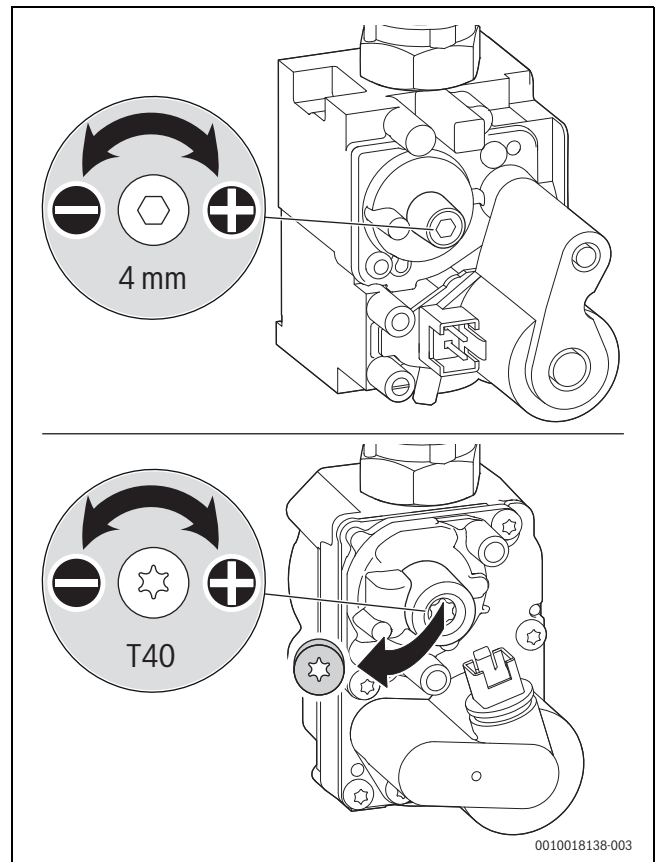

Fig. 101 Setting the CO₂ or O₂ content (above: SIT valve, below: Honeywell valve)
- ▶ Remove the seal from the adjusting screw of the air/gas ratio control valve (only air/gas ratio control valve is shown in the below Fig. 101) and set the CO₂ or O₂ content for minimum rated output.